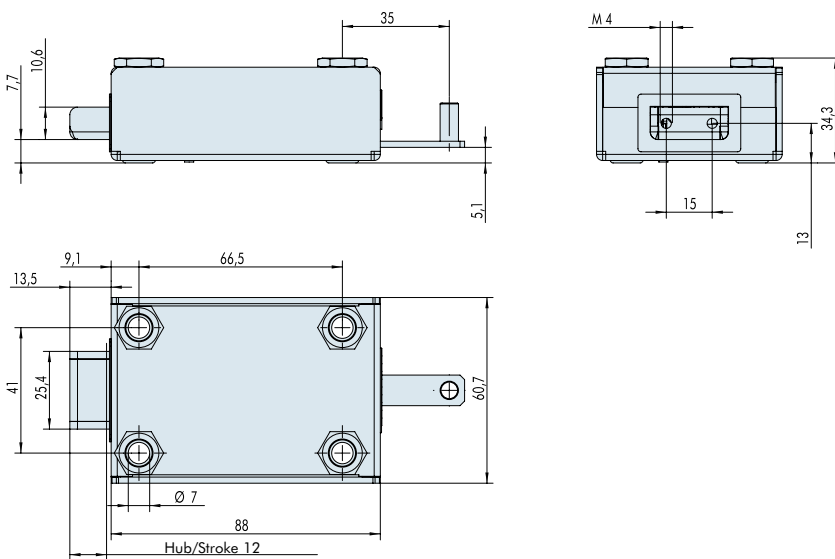

Fig. 2: Installation dimensions Remote 7219 with optional mech. opening
- Plug single conductors cable into the connecting terminal plate on the lock from/to the external control and check fixing (see fig. 2).